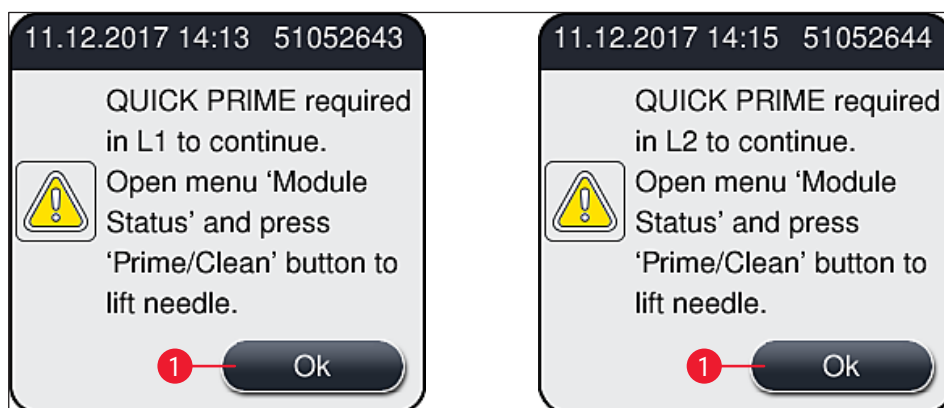

Fig. 51
- ① After completing the initialization phase, the main menu (→ Fig. 19) appears on the screen. and the user is informed (→ Fig. 51) that a **Quick Prime** is required for the coverslip line in use. Acknowledge the messages by pressing **Ok** (→ Fig. 51-1) and follow the instructions that follow (→ P. 119 – 7.3 Preparing the hose system for priming and cleaning).